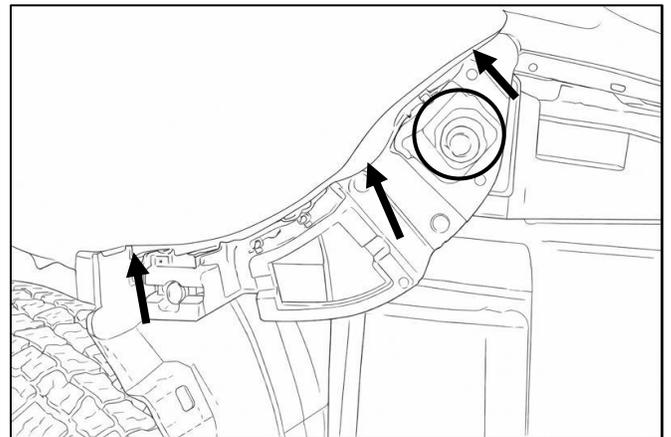

Figure 12: OEM Fender Support Removal
14.  Use a T30 driver and a 13MM socket to remove the (4) bolts on the outer fender support, removing the OEM support from bolt sides of the vehicle. See **Figure 12**.